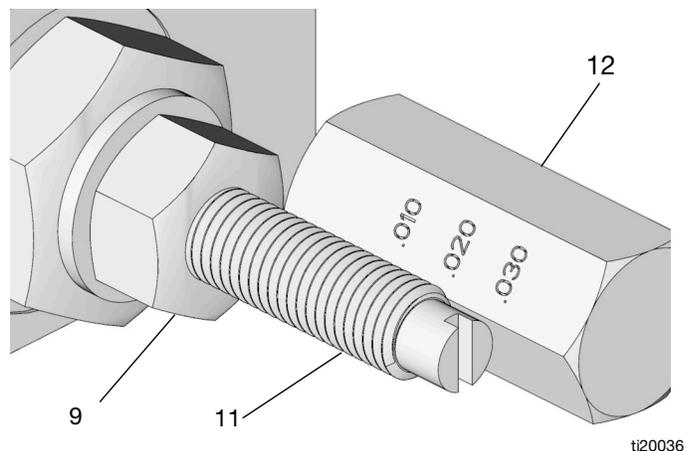

FIG. 3 AL-5 model shown
3. Place the adjustment screw cap (12) against the jam nut (9) and use the stamped numbers on the cap (cu. in. per stroke) to determine how much adjustment is needed.
4. Loosen jam nut (9) and use a flat screwdriver to turn adjustment screw (11). Turn adjustment screw in for less output and turn out for more output (FIG. 3).